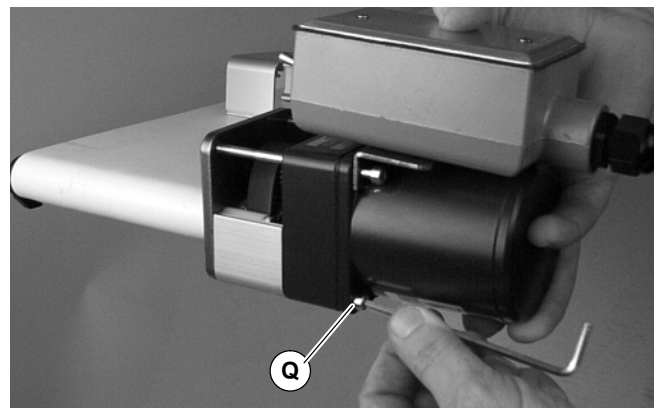

Figure 7
9. Insert gearmotor drive pulley into timing belt. Mount assembly with two (2) bottom screws (Q of Figure 7). Tighten to 45 in-lb (5 Nm).